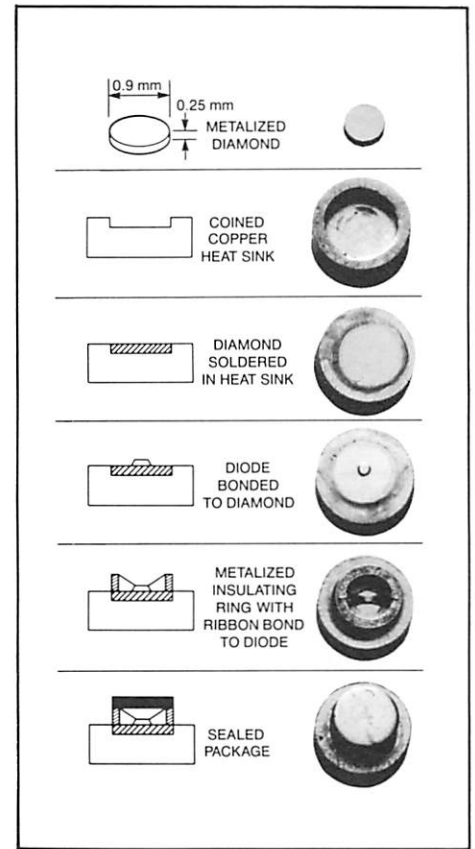

FIG. 5. DIAMOND IS USED FOR EFFICIENT HEAT REMOVAL.
A mounting scheme is required that provides adequate heat removal and also has the necessary mechanical strength to withstand thermal expansion and contraction. The copper heat sink bases are plated on Gunn diodes in wafer form. The individual diodes with integral heat sinks are then punched from the wafer. IMPATT diode chips can be thermo-compression (TC) bonded to diamond heat sinks which have been imbedded in a copper base as shown in Figure 5. High purity diamond has a thermal conductivity value several times larger than that of copper so this packaging technique is used for all high power CW IMPATT diodes. The IMPATT is TC bonded directly to the copper for short pulse (100 nanoseconds) and low power CW diodes.